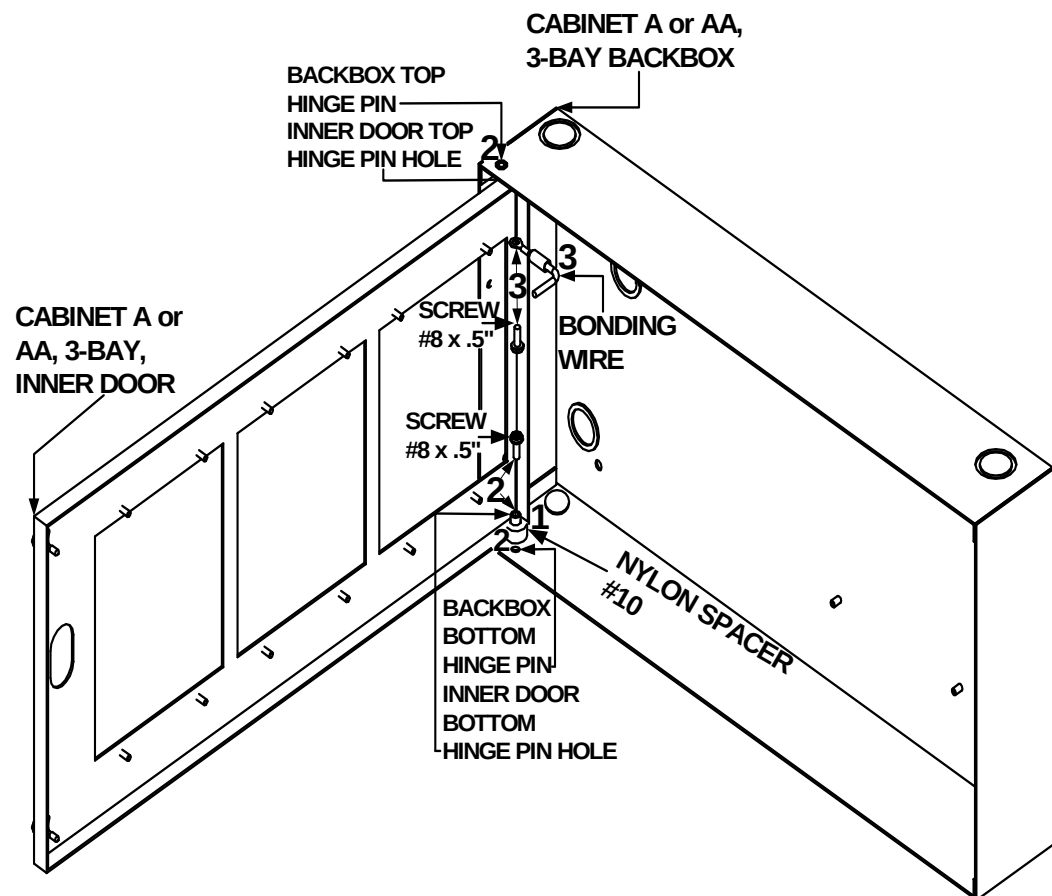

Figure 2.5.5.1.1 Cabinet A or AA, 3-Bay Backbox Sub-Assembly Installation
**NOTE:** For information on the installation of the opposite end of the bonding wire, see Section 2.5.5.2, Step 3 and Location 4 of Figure 2.5.5.2.1.